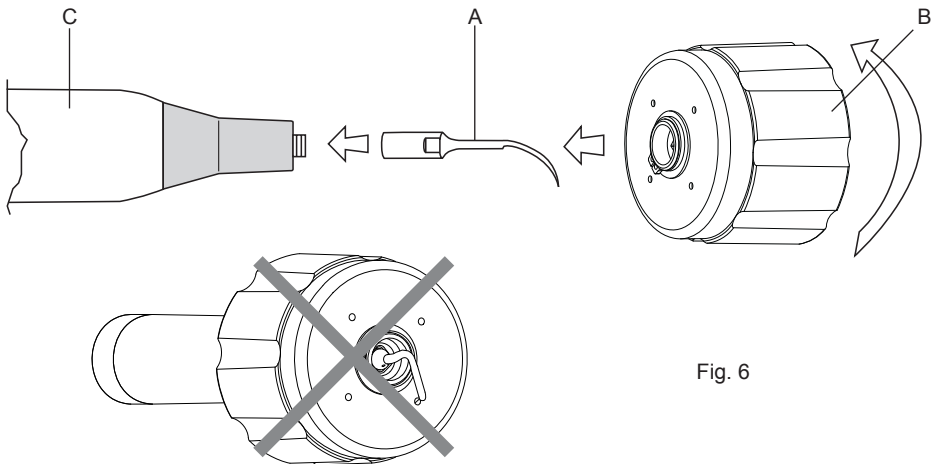

Fig. 6
To use the torque wrench properly (Fig.6 - Ref.B) proceed as follows:
- ⚠ **WARNING:** Do not grip the end part of the handpiece and/or the cord, but only the plastic casing (Fig.6 - Ref.C) and do not turn while fastening the insert in place.